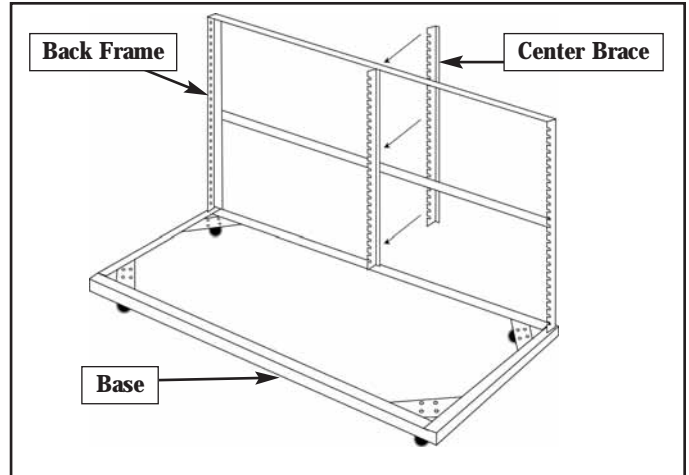

Figure 6. Attaching the Center Brace.
1. Place center brace vertically on the rear of the back frame in the center (Figure 6).